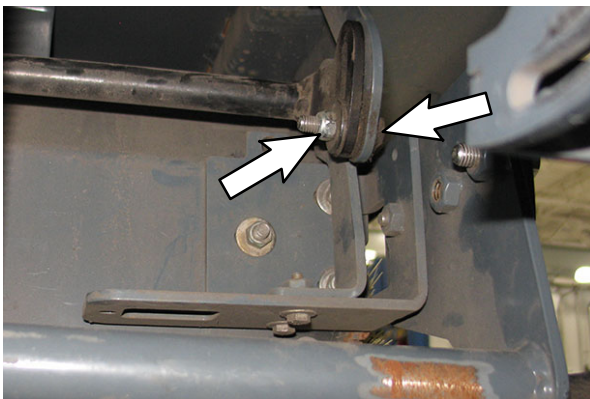

FIG. 9
11. Remove the hardware securing the plate link to the bearing mounting bracket and crank shaft. Discard the removed hardware and the plate link. (Fig. 9)